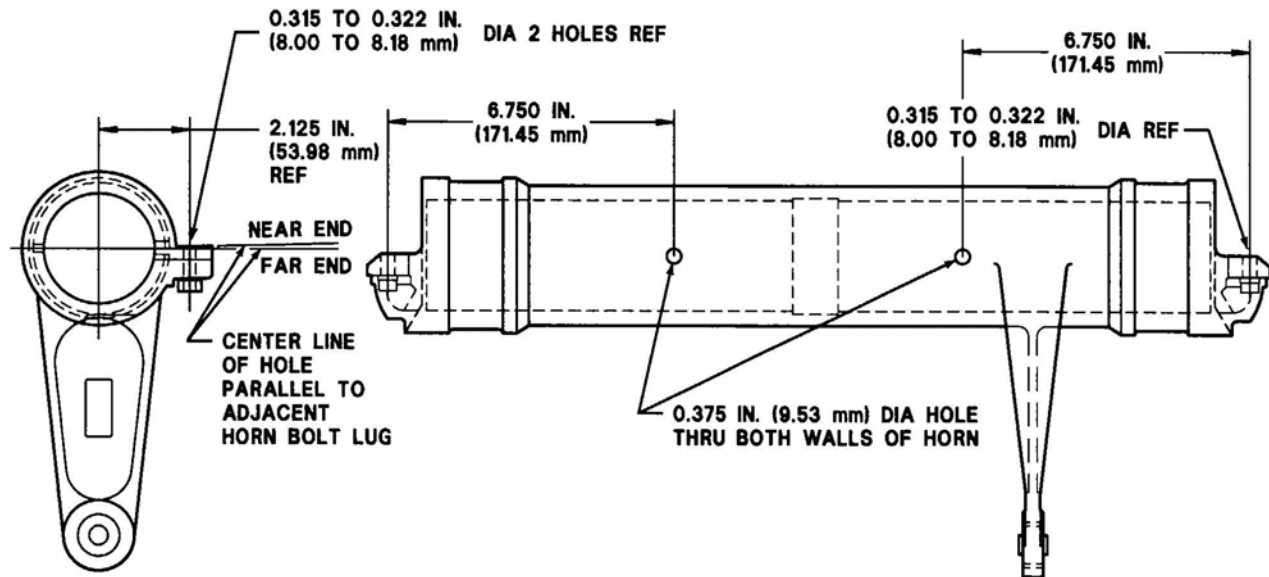

Figure 67-20. Elevator Horn Hole Location
HORN MUST BE MACHINED IN ACCORDANCE WITH FIGURE 67-20. FAILURE TO COMPLY WILL RESULT IN LOSS OF INTERCHANGEABILITY WITH FUTURE SPARE PARTS.
67.5.2.2.9.1 Drill 0.375 to 0.376 inch (9.53 to 9.55 mm) diameter hole through both walls of elevator horn. Hole to be 6.750 inches (171.45 mm) inboard of center of elevator attach bolt hole and through center of horn parallel to face of adjacent elevator attach lug (Figure 67-20). Repeat procedure on opposite end of horn. Deburr holes.